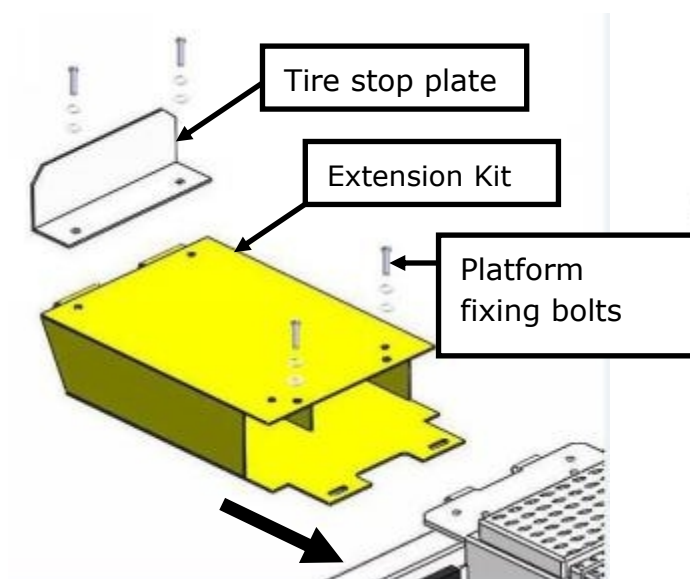
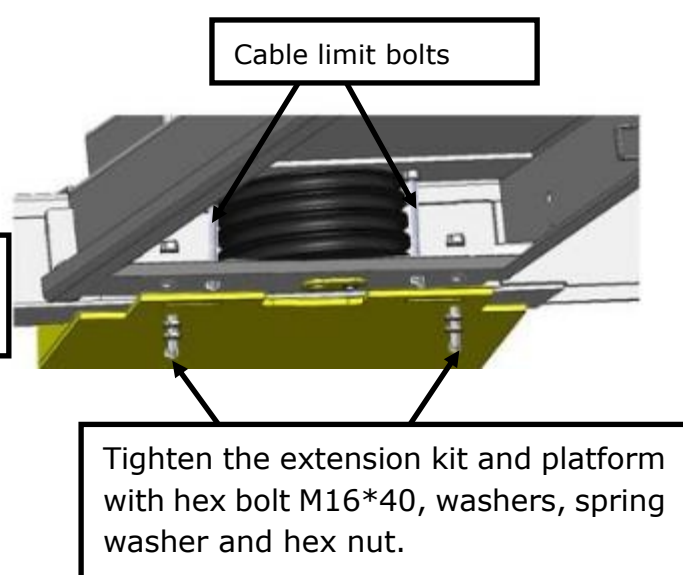

Fig.46
Fig.47
2.Put the extension kits into the platform, then tighten with the bolts. (see **Fig.46**, **Fig.47**)